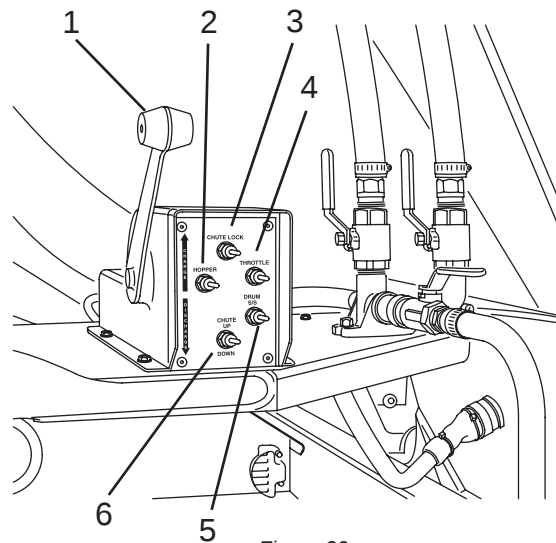

Figure 29
If the rear pendant (Figure 29, Item 1) is lost, or becomes damaged or faulty, a jumper plug (Figure 29, Item 3) must be installed in the rear pendant socket to allow operation of control functions from the cab control box.
2. Disconnect the rear pendant harness connector (Figure 29, Item 2) from the rear pedestal.
3. Install a jumper plug (Figure 29, Item 3) into the rear pendant socket.